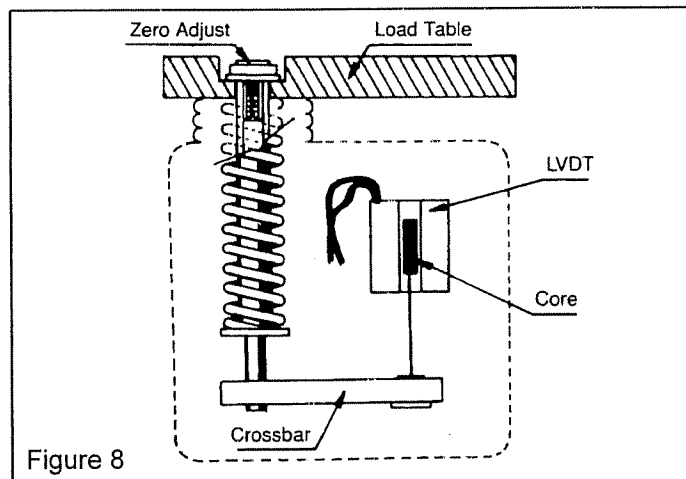

Figure 8
5. If the output voltage is not zero, remove the dust cap located on the Load Table to gain access to the zero adjustment screw. (See Figure 8.)
6. Using a 7/64 inch hex key, turn the zero adjusting screw several turns counterclockwise (CCW). Then, slowly turn the adjusting screw clockwise (CW) until a zero reading is obtained on the voltmeter. If the zero position is passed, turn the adjusting screw counterclockwise (CCW) past the zero point. Then turn the adjusting screw back in a clockwise (CW) direction until the meter reads zero volt.